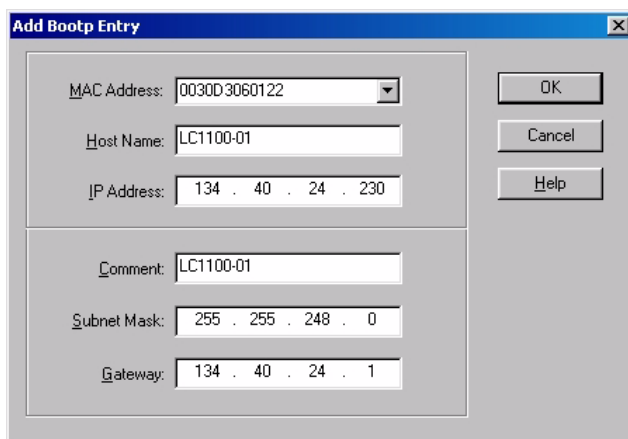

Figure 9 Add Bootp Entry - Enter your parameter
- 5 Select *Configure* -> *Add Entry* to configure the Bootp Manager (Figure 9). The drop down box "MAC address" lists all MAC addresses found. Select your MAC address. If no hardware address is found, select *Cancel* and repeat step 3 and step 4.